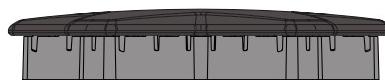

Figure 10 : Correct Burner Cap Placement
- Check each burner to make sure there is no gap between the burner cap and burner base. See *Figures 10 and 11: Correct and Incorrect Burner Cap Placement* to see examples of correct and incorrect placements of the burner cap.
- You may gently try to move the burner caps from side to side to check if the caps are properly placed on the burner bases. When properly placed, each burner cap will rest flat on top of its burner base, and completely cover the star-shape of the burner base when viewed from the top as shown in *Figure 10: Correct Burner Cap Placement*.